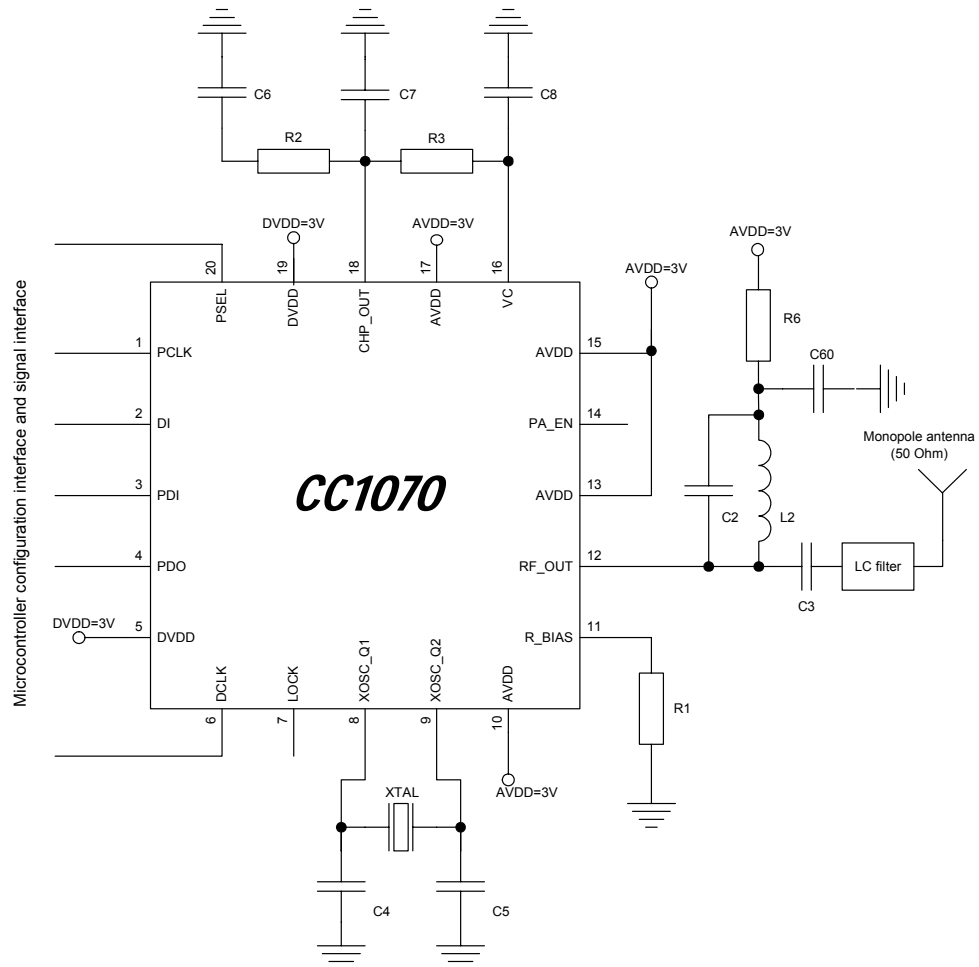

Figure 3. Typical application and test circuit (power supply decoupling not shown)
Very few external components are required for the operation of **CC1070**. A typical application circuit is shown in Figure 3. The external components are described in Table 9 and values are given in Table 10.
**Table 10. Bill of materials for the application circuit in Figure 3**